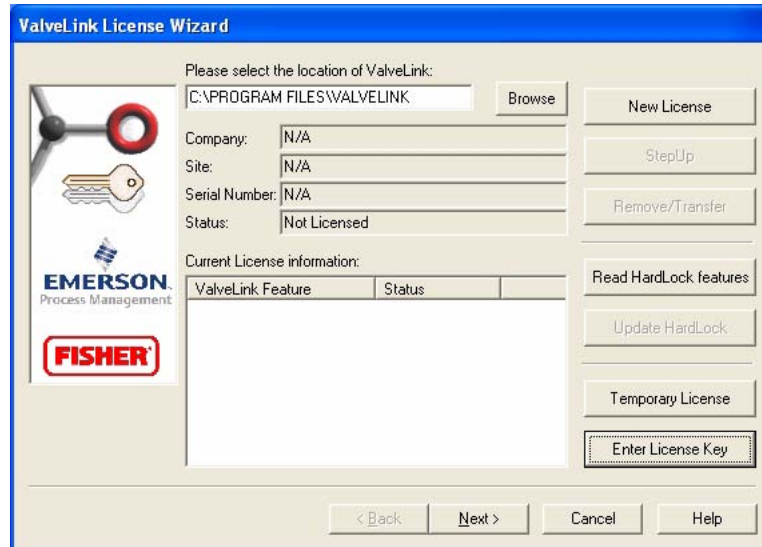

Figure 7-7. Enter License Key
- Step 6:** Click on Enter License Key button, as shown in figure 7-7 on page 7-15, and either import or manually enter the license key received from the ValveLink Registration Center.
**Step 1:** Run License Wizard and click on the Enter License Key button, as shown in figure 7-7.